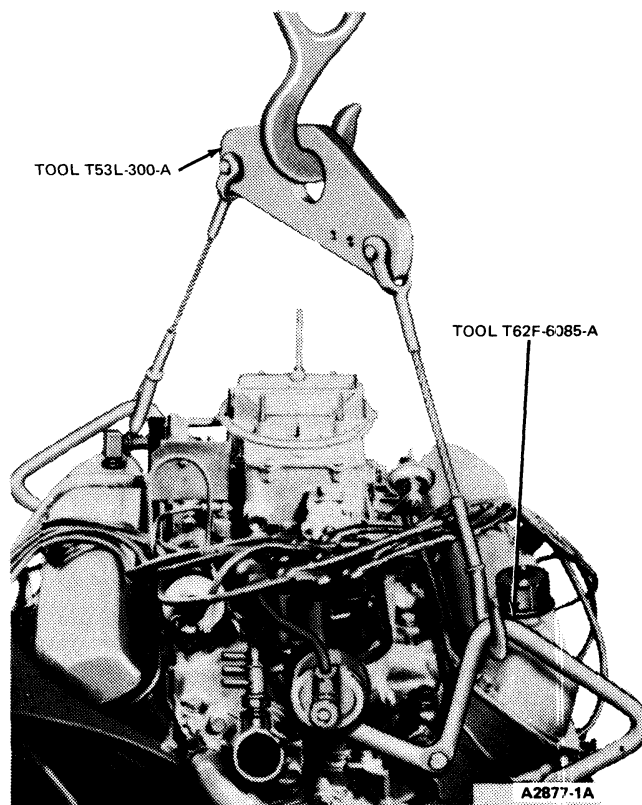

FIG. 7 Typical Engine Lifting Brackets and Sling
14. Lower the vehicle, and then support the transmission. Install the engine lifting eyes on the front of the left cylinder head, and install the engine right lifting bracket at the rear of the right cylinder head. Then attach the engine lifting sling (Fig. 7).
1. Attach the engine lifting brackets and sling (Fig. 7). Remove the engine from the workstand.